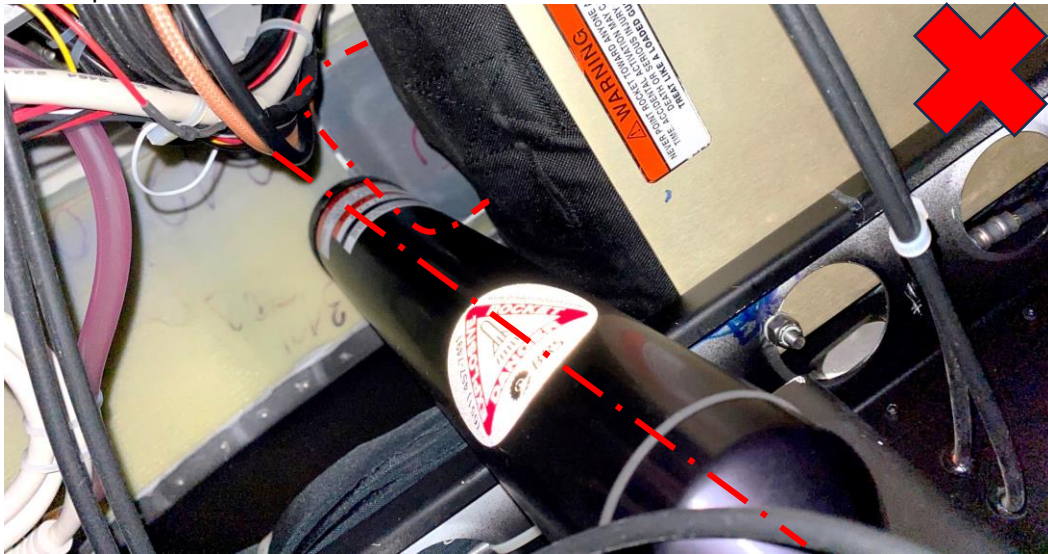
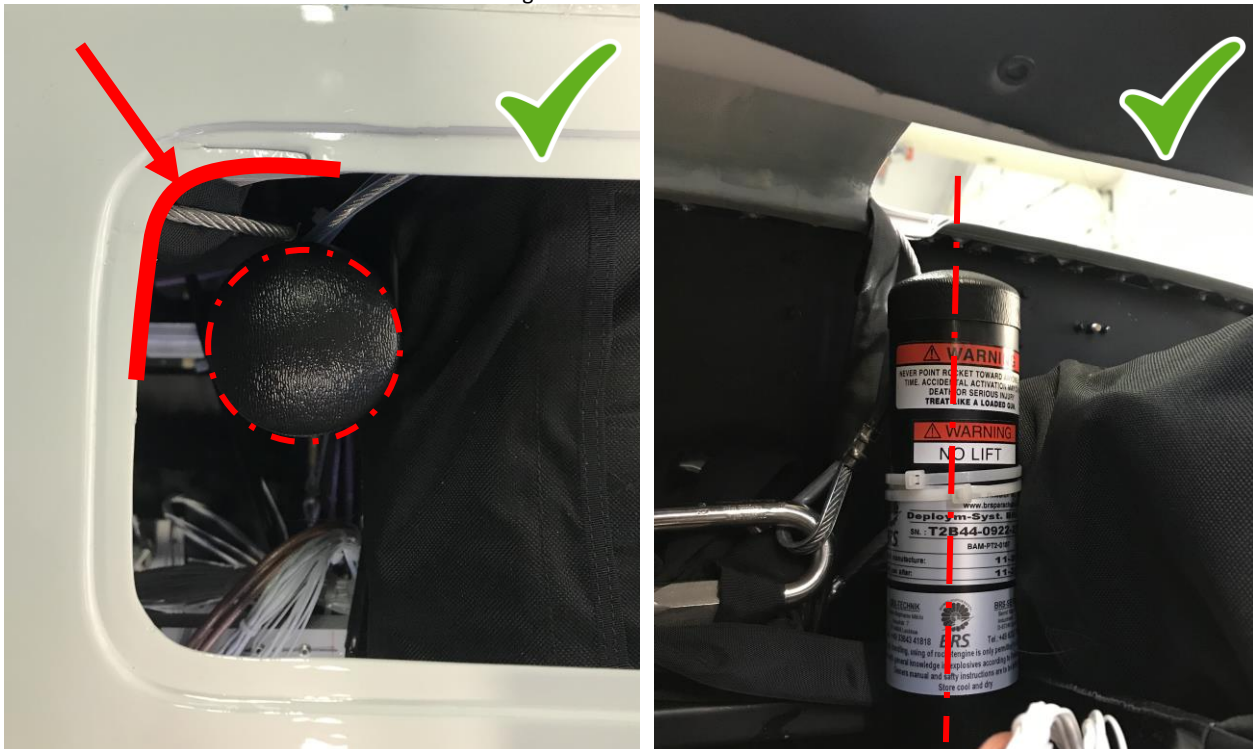

Fig. 1: Mis-aimed rocket
Fig. 2: Correct rocket position
- 2) From below the dashboard, check the correct direction of the rocket. The rocket must not be aimed at the edge of the hole. See Fig. 1 where the rocket is mis-aimed and Fig. 2 where is the correct position.
- 7d) New position of rocket bracket base allows slight rocket tilt (about 3 or 5 deg) in order to set correct aiming point (see Fig. 2).